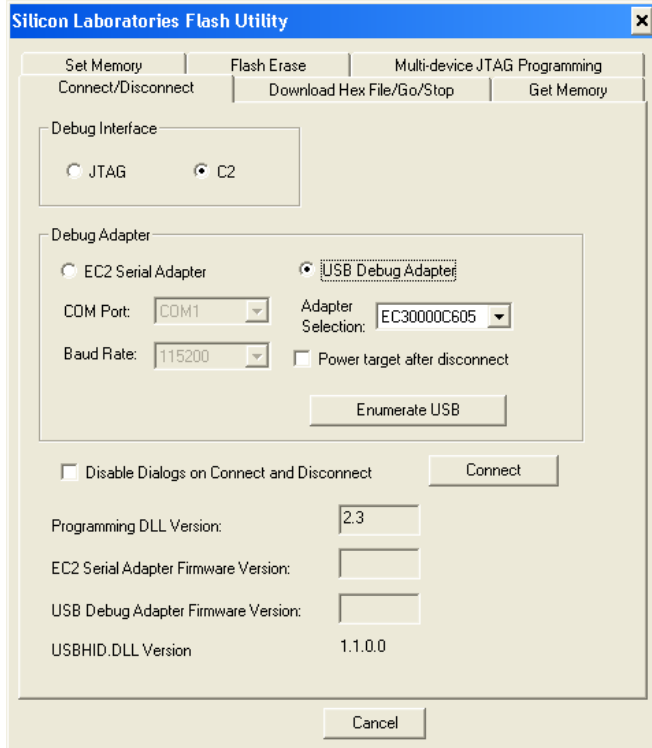

FIGURE 5. SILICON LAB FLASH UTILITY
1. Open Silicon Laboratories Flash Utility program and select the USB Debug Adapter by clicking the radio button. (You can click "Enumerate USB" at first time of using this adapter). See Figure 5.